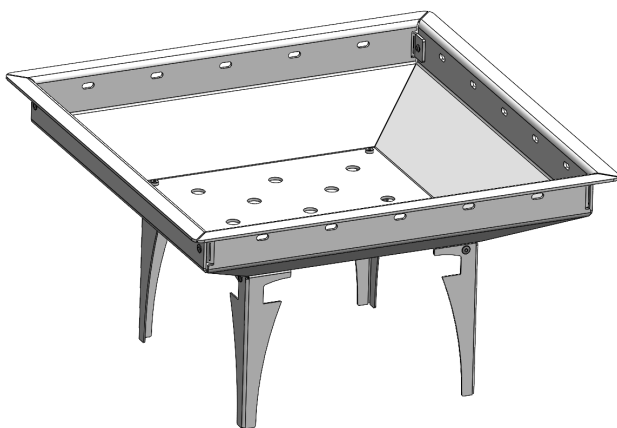

Fig. 3
- Stand the unit upright on a level surface, and fully tighten the 4x screws using the 3mm hex key provided. Please note, ensure that the legs are parallel to the corners. (See Fig. 3.)